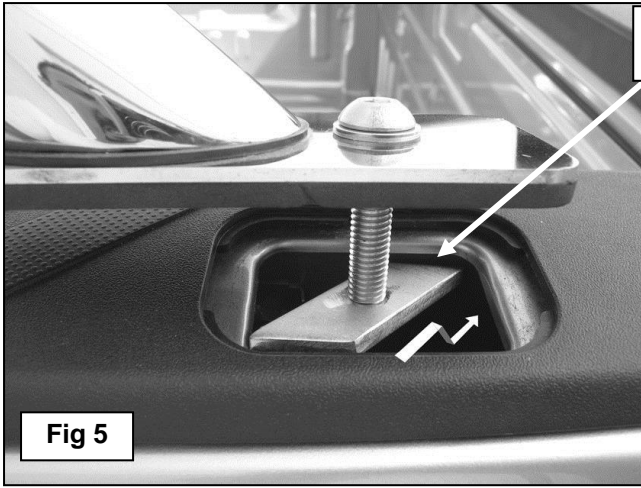
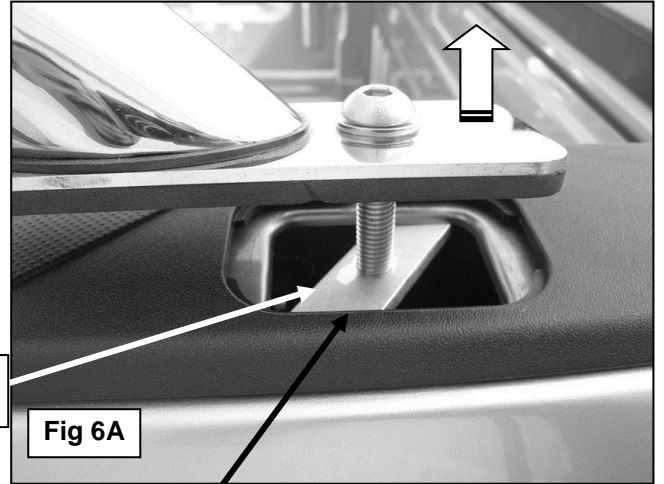

Fig 5
Fig 6A
4. Select the passenger/right side Bed Rail. Insert (1) 10mm Button Head Allen Bolt with (1) 10mm Small Flat Washer through the front mounting plate and into (1) Threaded Plate as illustrated in **Figure 4**. **NOTE:** Two types of Threaded Plates are included in the kit, **(Figures 6A & 6B)**. Use the largest Plate possible to fit across the inside of the stake pocket. Leave hardware loose at this time.
5. With the hardware loose in the front mounting plate, carefully position the Bed Rail onto the top of the bed. Tilt the Bolt and/or Bedrail side to side to slide the Threaded Plate into and under the lip on both sides of the steel part of the stake pocket, **(Figure 5)**. Use the largest Plate possible to fit across the inside of the stake pocket, **(Figures 6A & 6B)**. Snug but do not tighten hardware at this time.
7. Line up the front and rear of the Bed Rail with the top of the bed and tighten all hardware. To tighten the front mounting position, pull up on the Bed Rail to hold the Threaded Plate in place and centered across the pocket. Keep pulling up on the Bed Rail to prevent the Plate from moving/rotating while tightening the 10mm mounting bolt, **(Figure 6A & 6B)**.